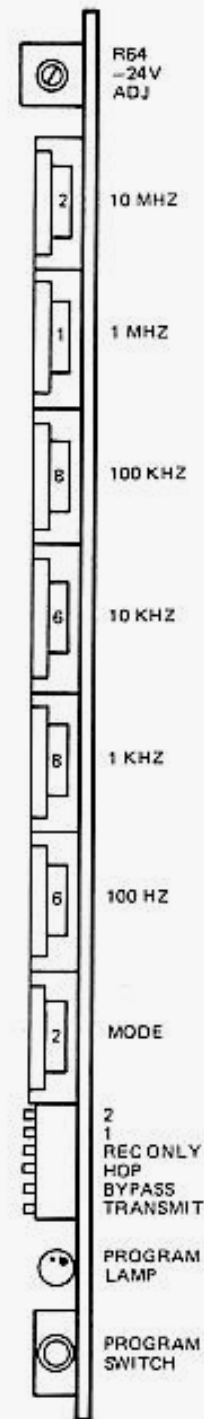

Figure 3. Input/Output Summary
- f. Use calibrated VOM and measure -24 Vdc (± 1 Vdc) at pin 24 of U1 and U2. If within tolerance, reverse procedure to return to normal operating configuration. If not within tolerance, locate R64 using component location diagram in figure 3, and use small flat-blade screwdriver to adjust voltage to -24 Vdc. This completes adjustment.
Figure 3 summarizes, card edge connections and test point or other significant physical board detail as viewed from the top.